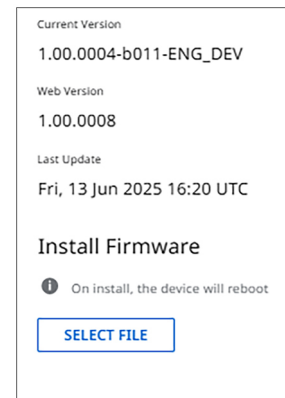

Figure 38. Firmware Panel
1. In the Firmware panel, click the **Select File** button (see figure 38).